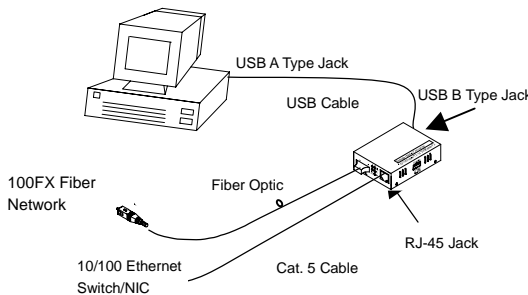

Fig.1 ME61 with USB power source (Type B-to-Type A Plug) and FX/TP connection
2. Install the USB cable. Plug the type A connector in the PC's USB port and the type B connector in the ME61's USB port (see Fig. 1).